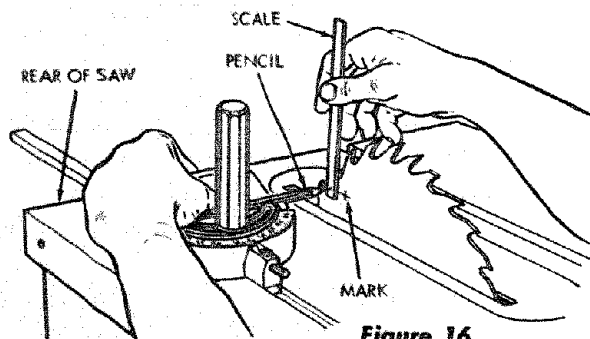
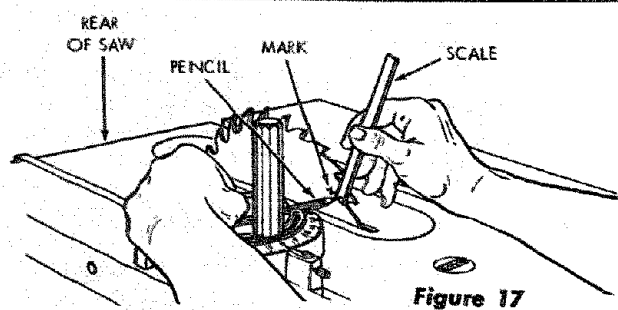

Figure 16
Figure 17
- (1) Check elevation and tilt hand-wheels to make sure each is rotated fully clockwise — to position saw blade for deepest cut and square with table top.
- (2) Make a mark at base of one saw tooth at rear of blade just above table surface. (See figure 16.) Select a tooth that is "set" toward the right-hand side of saw.
- (3) Place the miter gauge in table groove at left of saw blade. See that miter gauge is at "0".
- (4) Lay a pencil, or similar pointed tool, in the depression just ahead of miter gauge scale, with pencil point toward the blade and hold pencil in the depression with thumb of left hand as shown. (See figure 16.)
- (5) Slide the miter gauge to a position which will point the pencil at the marked saw tooth. Hold a small scale against the marked tooth and slide the pencil toward the saw until the point rests against the scale. With the left thumb, hold the pencil securely in miter gauge head. It must not move.
- (6) With the right hand, remove the scale and rotate the saw blade until the marked tooth is just above the saw table at the front. (See figure 17.)
- (7) Slide the miter gauge toward the front of saw table until the pencil is pointing toward the marked tooth. Insert the scale between pencil point and blade, as shown in figure 17. If the saw is parallel to table groove, the scale will just slide into the gap between the pencil point and blade. If the scale will not enter, or is loose in the check shown in figure 17, an adjustment of the table trunnions is required.